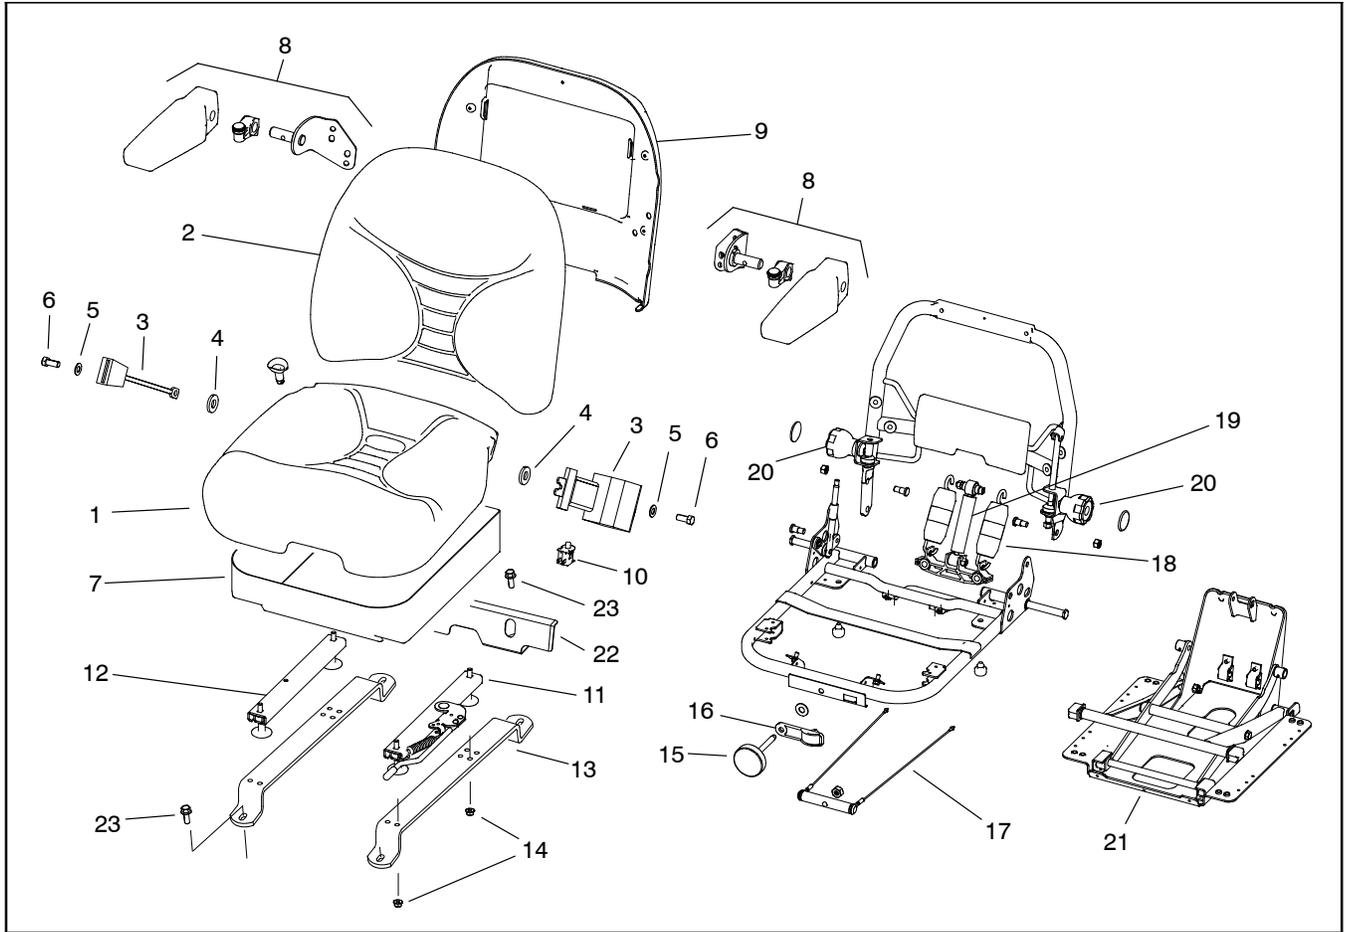

Figure 11
4. Remove seat parts as necessary to make repairs (Fig. 11).
1. Install any new seat parts (Fig. 11) as a guide.